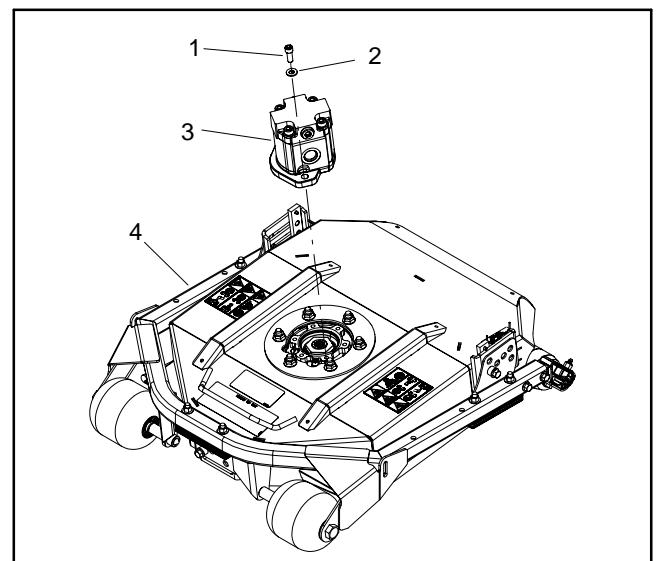

Figure 84
6. Remove two (2) socket head screws and flat washers that secure hydraulic motor to the cutting deck (Fig. 84). Remove hydraulic motor and O-ring from deck.
3. Make sure that O-ring is positioned to top of spindle housing. Secure hydraulic motor to the cutting deck with two (2) socket head screws and flat washers (Fig. 84).